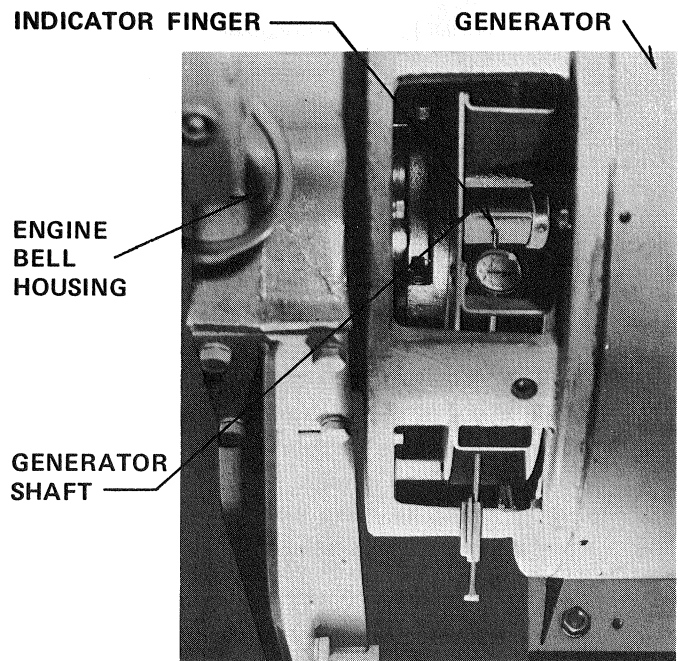

FIGURE 2-7 CHECKING GENERATOR SHAFT RUNOUT
- j. After generator is assembled to the engine; but before installing the fan screen or placing generator set in operation, check run out of the generator shaft. Check run out by placing the base of a dial indicator on a generator frame rib and positioning the indicator finger on the generator shaft as shown in figure 2-7. Set dial indicator to zero. Turn generator through at least one revolution. **TOTAL INDICATOR READING SHOULD NOT EXCEED .005 - INCH.** See NOTE on page 7.